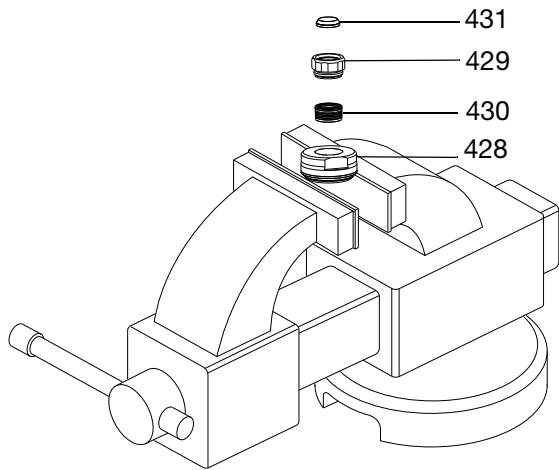

FIG. 29
11. Lubricate the intake valve (430) and install them in valve (428). See FIG. 29.
12. With beveled side facing up, press intake valve seal (431) in to recess of intake valve packing nut (429) until it snaps into place. The nose of the seal should be flush with or slightly recessed into the face of the packing nut. See FIG. 29.
13. Place flats of valve body (428) in a vise. Screw packing nut (429) into valve body handtight. Set intake housing assembly aside.